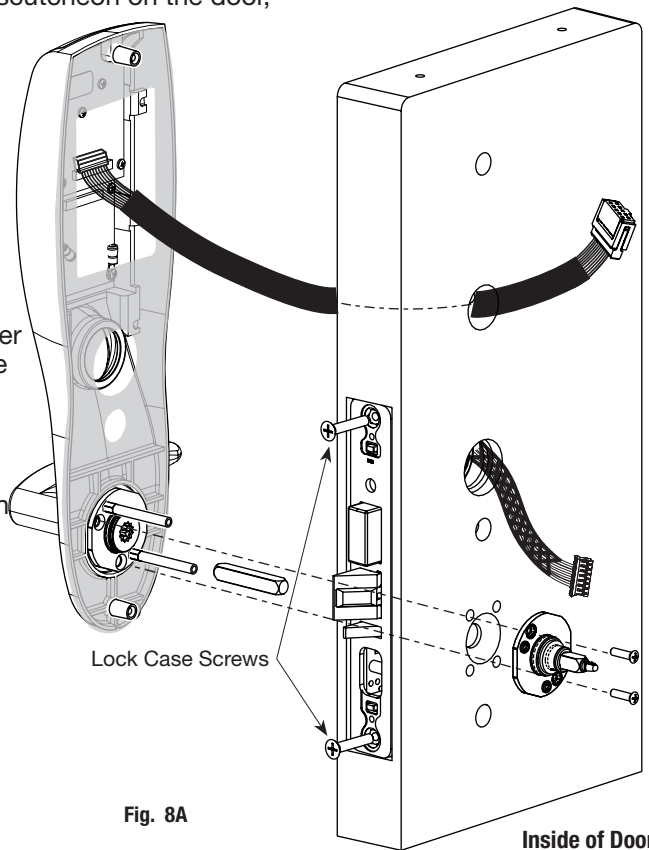

Fig. 8A
1. With outside lever horizontal, locate the outside escutcheon on the door, while directing the mounting posts through the door and lock body (Fig.8A).